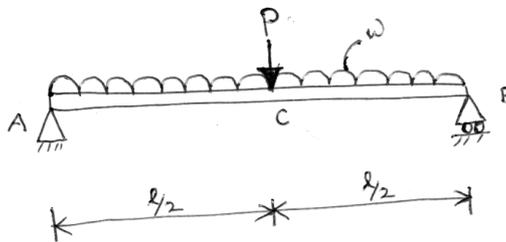

Figure-2
- b) A simply supported beam shown in figure-2. Subjected to UDL entire span and its subjected to a point load at the centre of the span. Determine deflection and slope at mid span by using Rayleigh Ritz method.